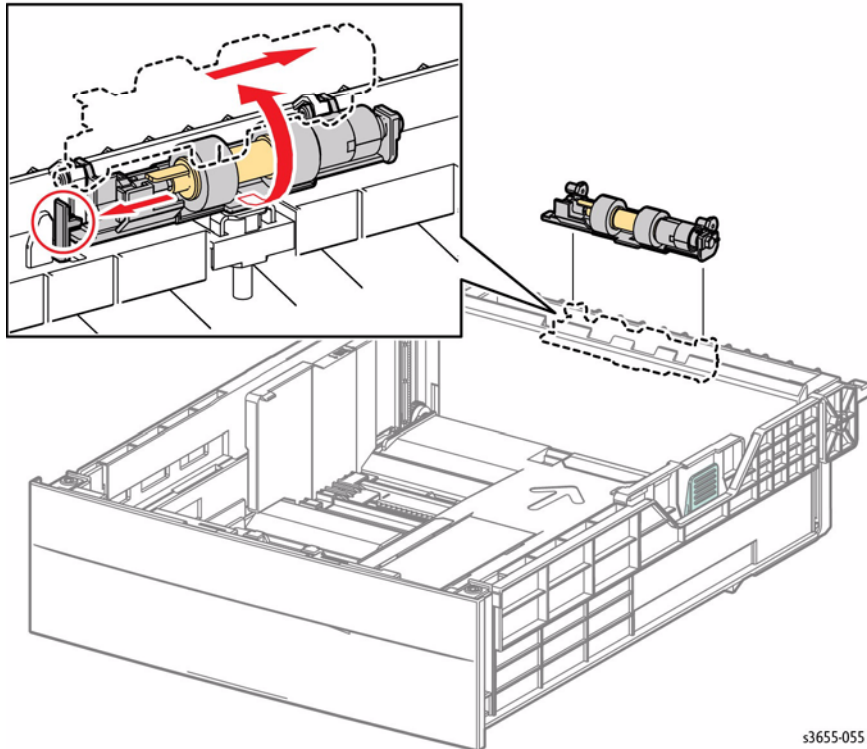

Figure 1 Remove the Retard Roller Assembly
2. Refer to Figure 1 to locate and release the hook that secures the Retard Roller Assembly in the Tray.